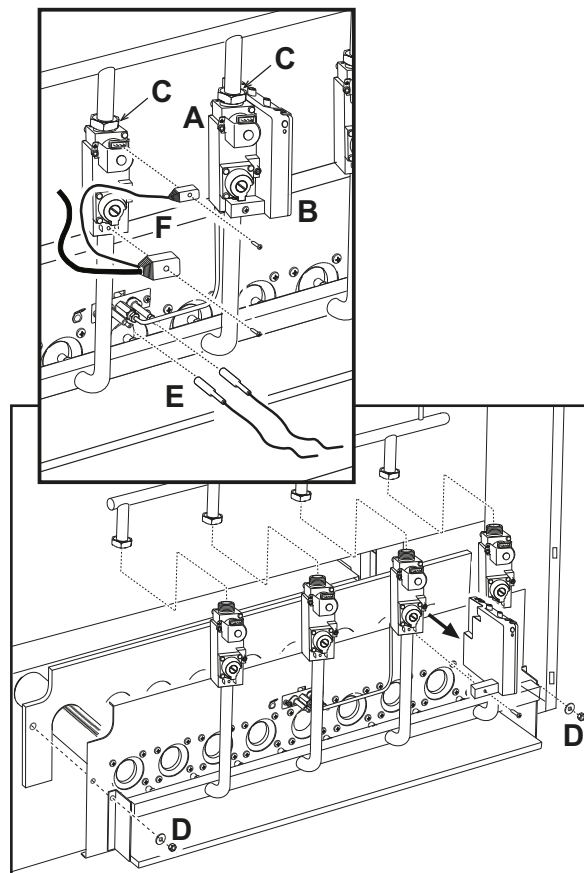

fig. 7 - Burner removal and cleaning
- Undo the two screws securing the electronic flame controller (detail B - fig. 7) to the gas valve (detail A - fig. 7) and remove the controller.
- Undo the screws fixing the connectors (F) to the gas valves and remove the connectors.
- Disconnect the ignition and ionisation cables (E) from the electrode assembly.
- Undo the nuts fixing the gas supply pipe ahead of the gas valves (detail C - fig. 7).
- Undo the two nuts fixing the combustion chamber door to the cast iron elements of the boiler (detail D - fig. 7).